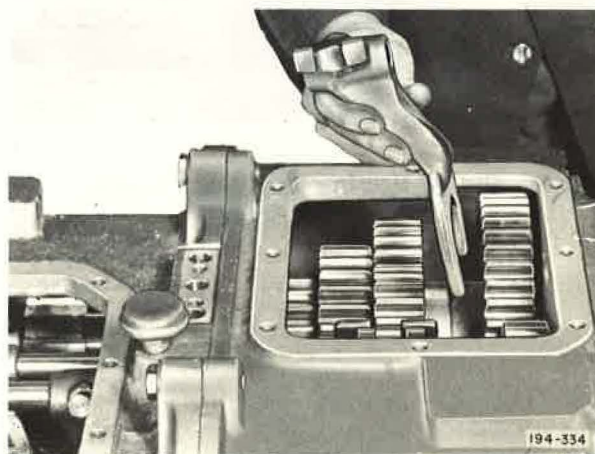

Figure 46. Installing Fourth and Fifth Speed Shifter Fork
30. Start fourth and fifth speed shifter rail in hole provided in front of case. Engage fourth and fifth speed fork with fourth and fifth speed sliding clutch. See Figure 46.